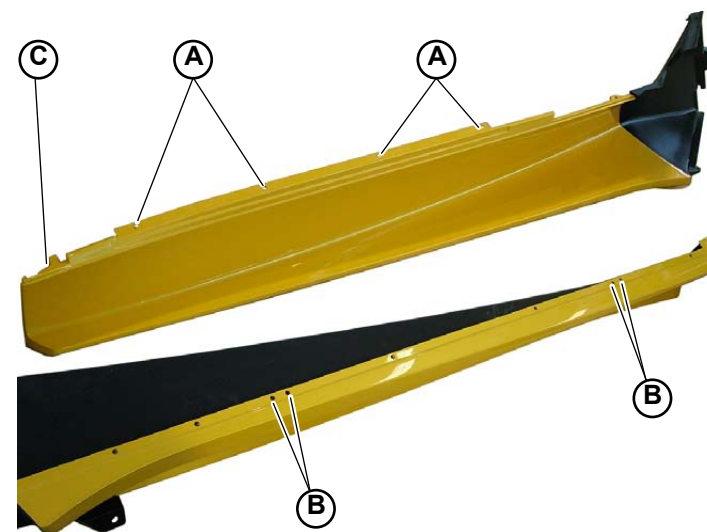

Fig.1
1. Tighten the 4 screws (**A-Fig.1**) on the upper part of the side member.
2. Tighten the 4 screws (**B-Fig.1**) on the lower part of the side member onto the 2 relative support brackets.
3. Tighten the screw (**C-Fig.1**) at the front of the side member.